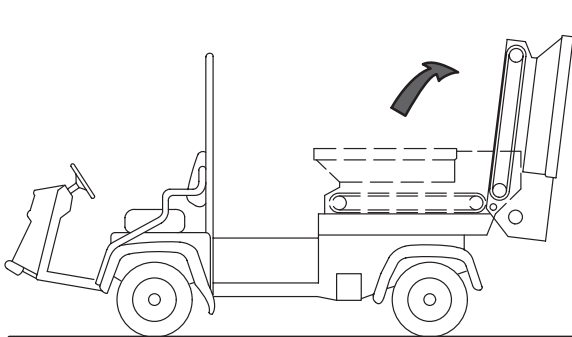

Figure 30
5. Pivot hopper rearward and lean against wall, ladder, etc. Do not allow hopper to rest against rear of machine as damage may result to brash or hydraulic couplers (Fig. 30).
Important Make sure hopper is pivoted beyond center and/or secured to wall or post to prevent it from accidentally falling on work area (Fig. 30).